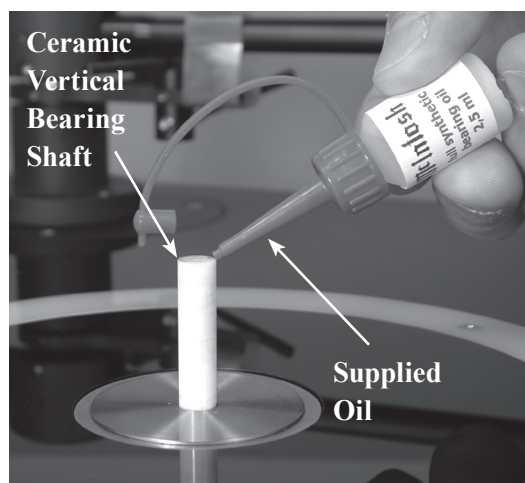

Figure 2
2. Locate the supplied Turntable Bearing Oil and place two small drops of Oil on the top sides of the Ceramic Vertical Bearing Shaft. Refer to figure 2.